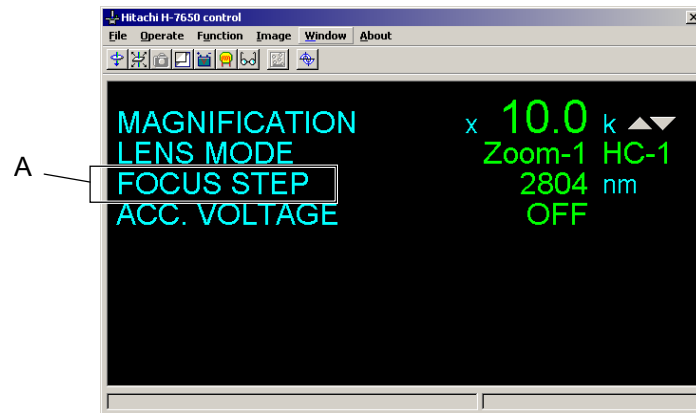

Fig. 3-46 Close-up information Window
- (c) Double-clicking on section A in Fig. 3-46 will open the Focus step/Defocus amount set window the same as in (a).